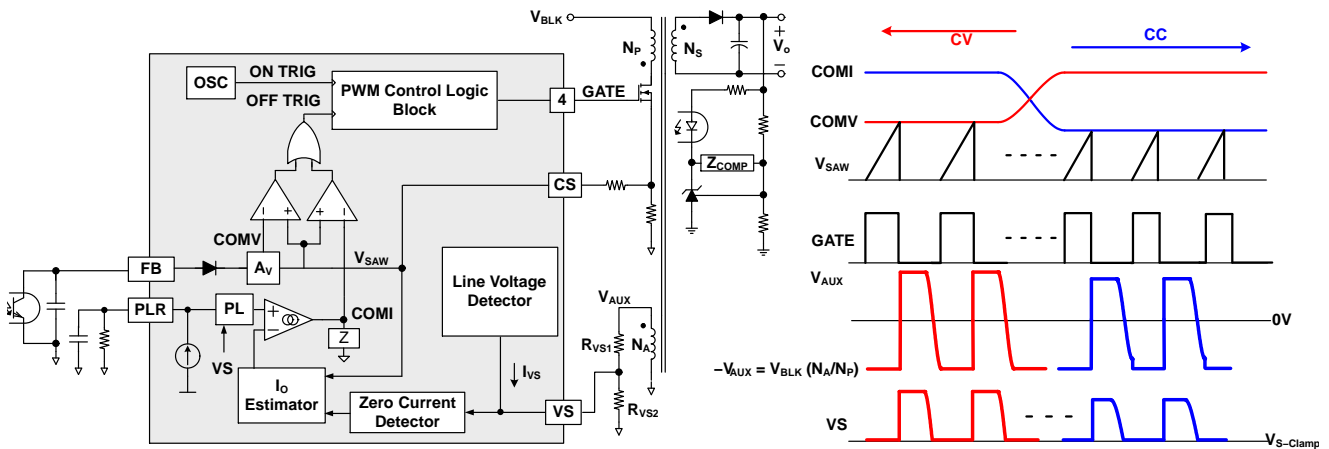

Figure 27. Simplified PWM Control Circuit and PWM Operation for CV/CC Regulation
Figure 27 shows a simplified CV / CC PWM control circuit of the FAN604P. The Constant Voltage (CV) regulation is implemented in the same manner as the conventional isolated power supply, where the output voltage is sensed using a voltage divider and compared with the internal reference of the shunt regulator to generate a compensation signal. The compensation signal is transferred to the primary side through an opto-coupler and scaled down by attenuator A_V to generate a COMV signal. This COMV signal is applied to the PWM comparator to determine the duty cycle.
These two control signals, COMV and COMI, are compared with an internal sawtooth waveform (V_{SAW}) by two PWM comparators to determine the duty cycle. Figure 27 illustrates the outputs of two comparators, combined with an OR gate, to determine the MOSFET turn-off instant. Either of COMV or COMI, the lower signal determines the duty cycle. During CV regulation, COMV determines the duty cycle while COMI is saturated to HIGH level. During CC regulation, COMI determines the duty cycle while COMV is saturated to HIGH level.